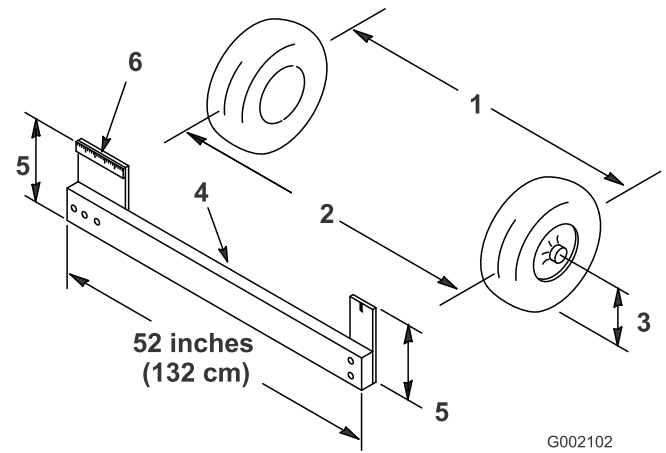

Figure 42
2. Measure the distance between both of the front tires at the axle height at both the front and rear of the front tires (Figure 42). A fixture or alignment gauge is needed for the rear measurement of the front tires at axle height. Use the same fixture or alignment gauge to accurately measure the front of the front tires at axle height (Figure 42).